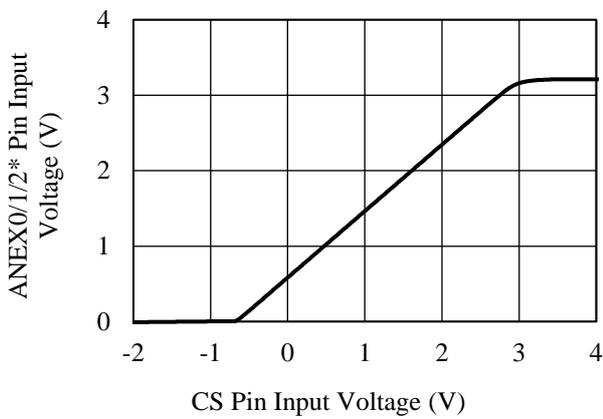

Figure 2-1. CS Pin Offset
(2) VCC Pin Supply Current at Startup, $I_{CC(ST)} = I_{ST} - I_{CC(OFF)}$
(3) Detects when the ST pin voltage rises by ΔV_{XCAP} or more in $10\text{ }\mu\text{s} < t < 5\text{ ms}$ (see Section 8.6).
(4) Guaranteed by design.
(5) See Figure 2-1.